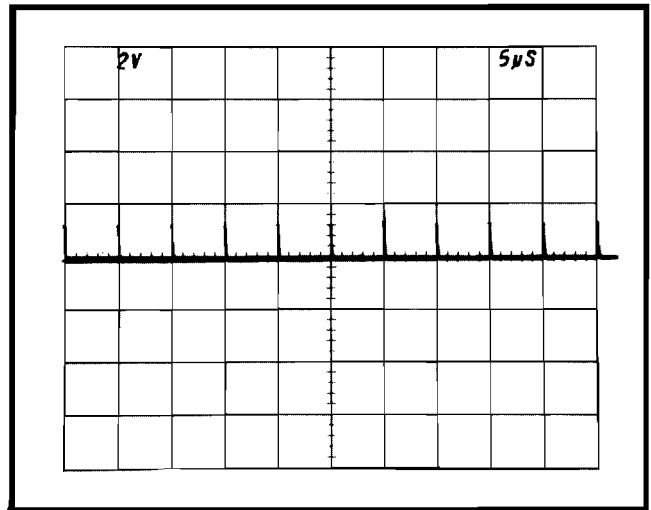

Fig. 5-8. CRT display showing correct 5 μ s timing.
22. Check/Adjust 5 μ s Timing (C530J) ❶
c. CHECK—CRT display for one marker each division between the second and tenth vertical lines. Check that sweep timing is within 0.16 division (2%) over the center eight divisions. See Fig. 5-8.